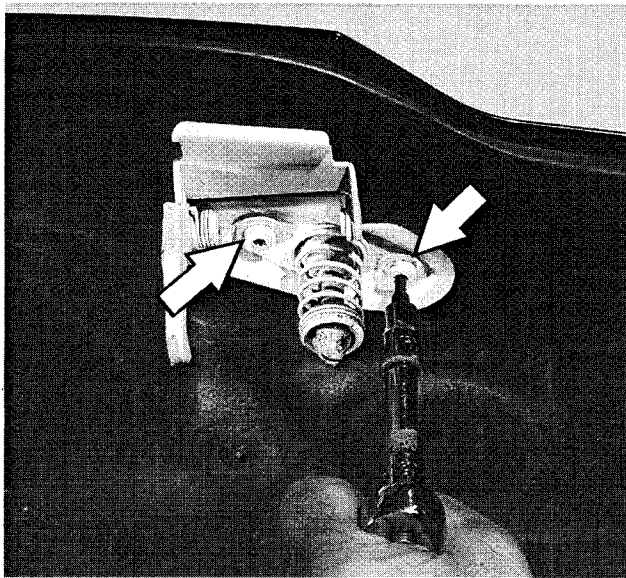

Fig. 11. Hood latch mounting bolts (arrows). Left latch shown.
2. Loosen hood latches at hood on left and right sides. Loosen bolts only enough to allow movement of latch. See Fig. 11.